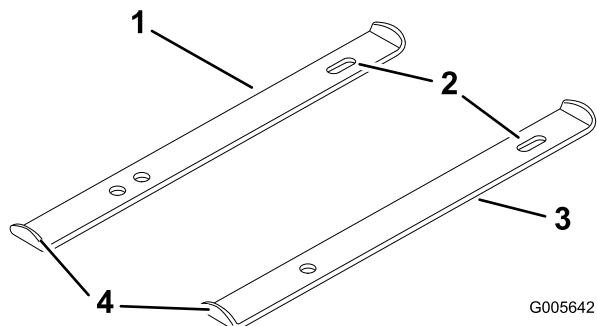

Figure 4
1. Place the spacers on the seat mounting frame with the bent ends facing up. **The slot in the spacer is installed to the back of the seat** (Figure 4).
Note: Z Master 100 or 400 Series models are installed with spacers that have 3 holes. Z Master 200 or 500 Series models are installed with spacers that have 2 holes (Figure 4).